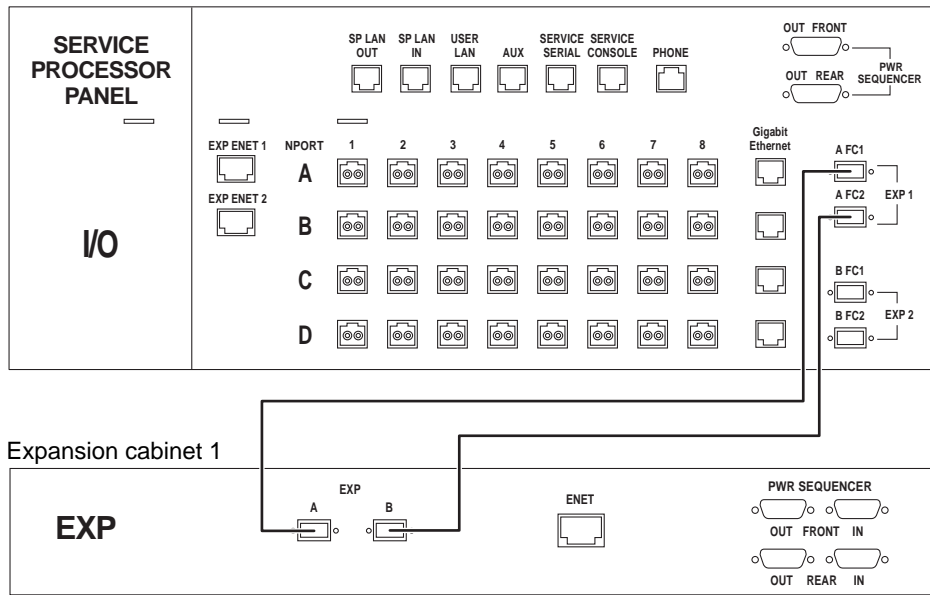

FIGURE 3 FC Cabling Between a New Service Panel of the Base Cabinet 0 and Expansion Cabinet 1
Connect redundant Fibre Channel (FC) cables (part number 537-1060-01) as follows (see FIGURE 3):